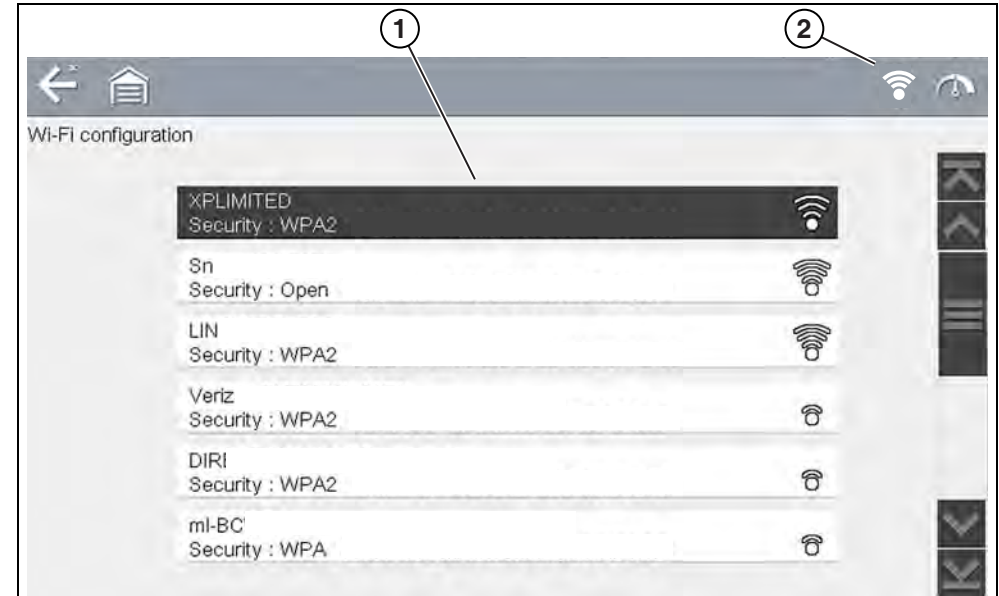

Figure 14-2 Wi-Fi Configuration Screen
- Select your network. Use the scroll feature to show all active connections (Figure 14-2).